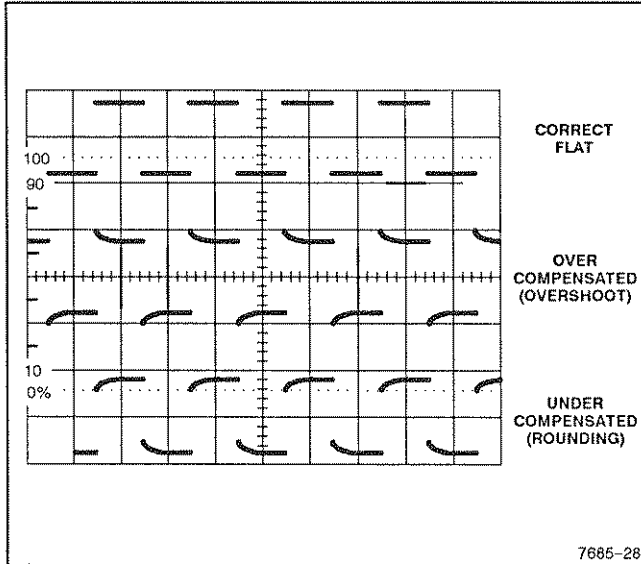

Figure 2–11. Probe compensation.
5. Check the waveform display for overshoot and rolloff (see Figure 2–11). If necessary adjust the probe compensation for flat tops on the waveforms. Refer to the instructions supplied with probe for details of compensation adjustment.
9. Check the waveform display for overshoot and rolloff (see Figure 2–11). If necessary adjust the probe compensation for flat tops on the waveforms. Refer to the instructions supplied with probe for details of compensation adjustment.